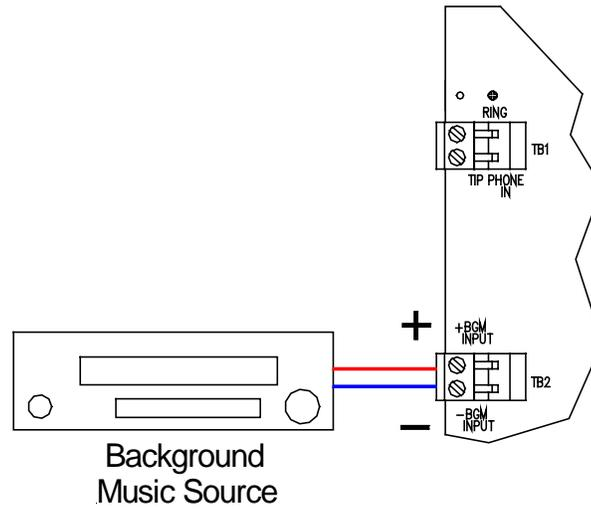

Figure 8
STEP 7 Connect the Background Music source to the BGM INPUT terminals. See Figure 8.